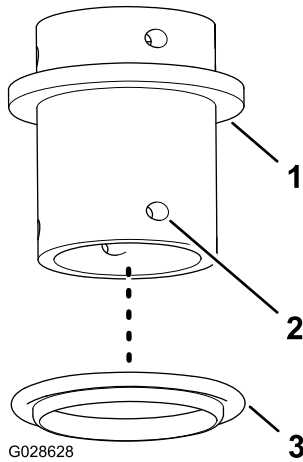
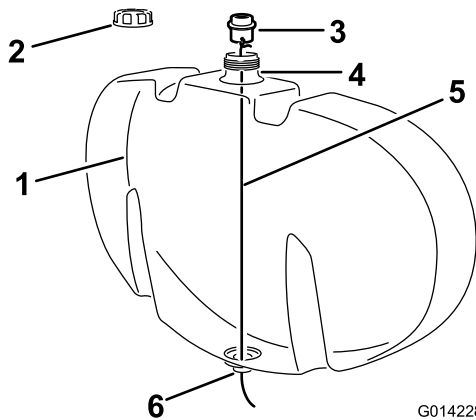

Figure 8
Figure 9
- A. Install the flanged seal onto the bulkhead fitting (Figure 8).
- B. Attach a wire, longer than the tank is tall, to one of the retaining-fork holes in the bulkhead fitting (Figure 8 and Figure 9)
- C. Remove the tank cap, insert the wire through the filler neck, and pass the wire out through the outlet at the bottom of the tank (Figure 9).